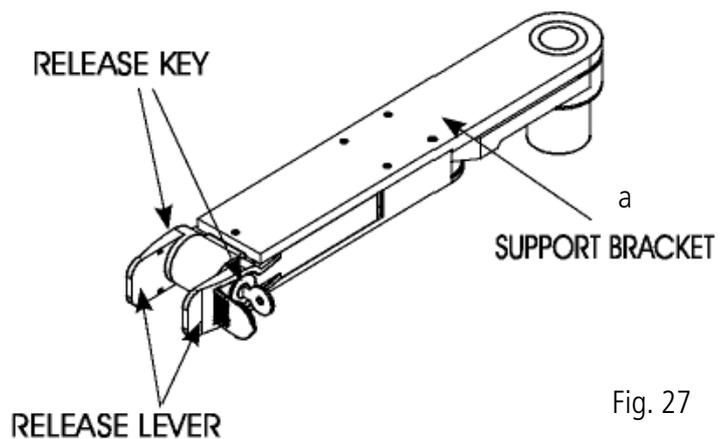

Fig. 27
The device is inserted on the gate support bracket (Fig.27 ref. a) and enables you to release the system from both inside and outside the premises.
1. Move the release lever back to its rest position (Fig.27)